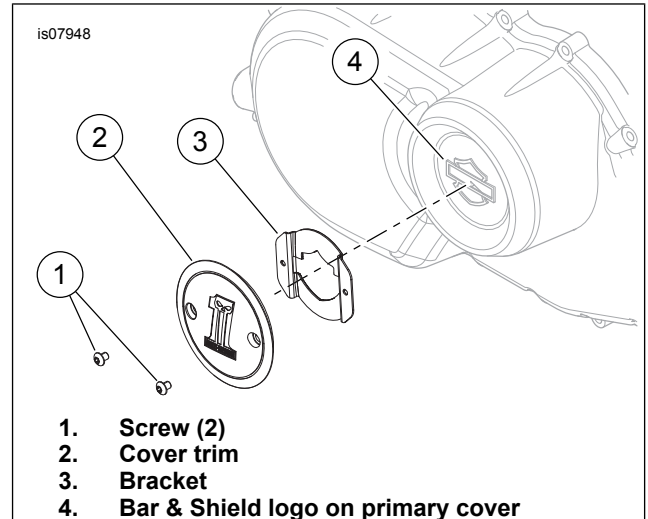

Figure 1. Service Parts, Primary Cover Trim Kit
This kit contains one cover trim, one bracket, two screws and these instructions. See Table 1 and Figure 1.
2. See Figure 1. Test-fit the bracket (3) before removing the protective backing from the tape. The cutout fits over the Bar & Shield logo (4).
4. Secure the trim with two screws (1). Tighten to 3.4–4.2 N·m (30–37 **in-lbs**).